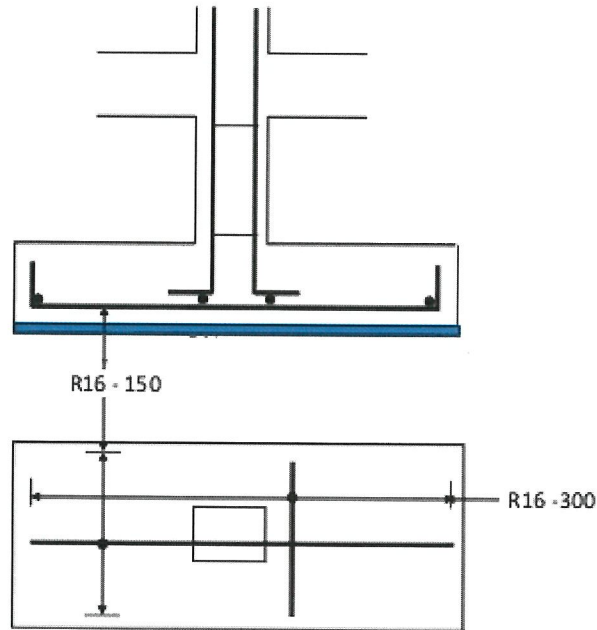

Figure Q3
Q3 Pad footings are commonly used for shallow foundations in order to carry and spread concentrated loads caused by columns. **Figure Q3** in **Appendix 2** shows the plan and cross-section of reinforced G20 concrete (RC) pad footing. **Table Q3** in **Appendix 2** show the dimension and quantity of the RC pad footing. Concrete cover for RC pad footing is 40mm.
Calculate a quantity take-off for concrete work for RC pad footing based on the information given in **Figure Q3** and **Table Q3**.